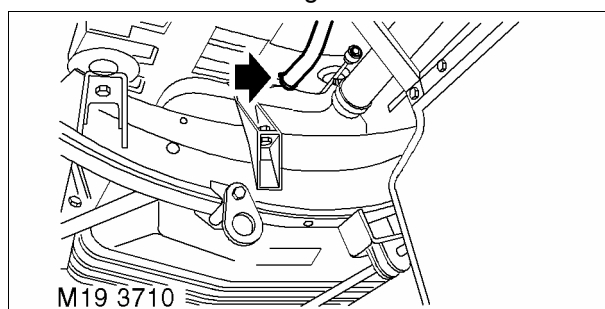

Fig. 2
- 6 Disconnect fuel tank vent hose. See Fig. 2.